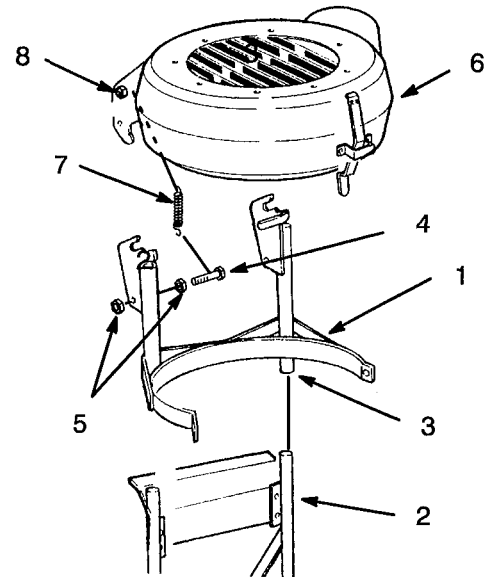

Figure 12
24. Align canister support over tubes of bagger mount and slide down (Fig. 12).
25. Assemble spring anchor bolts to canister support brackets. Thread (1) lock nut part way onto 3/8-16 x 2-1/4 in. bolt. Install bolt into bracket with head toward the inside. Install second lock nut onto end and tighten inner lock nut, so bolt extends inward (Fig. 12). Repeat for second bracket.
26. Slide the top assembly pivot bolts into slots of canister support brackets. Retain top assembly with springs hooked between top anchor bolts and spring anchor bolts in canister support brackets (Fig. 12).